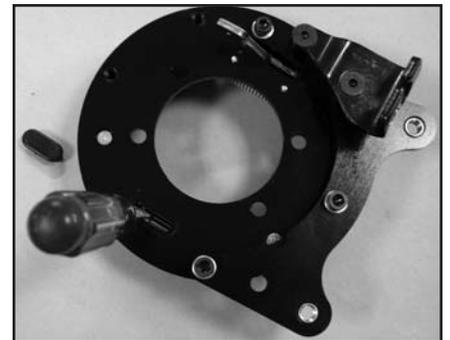

Figure 16
- Using a brake shoe adjustment tool (available from any auto parts store), or straight screwdriver, adjust the “star” wheel while spinning the rotor until a slight drag is felt, Figure 16.